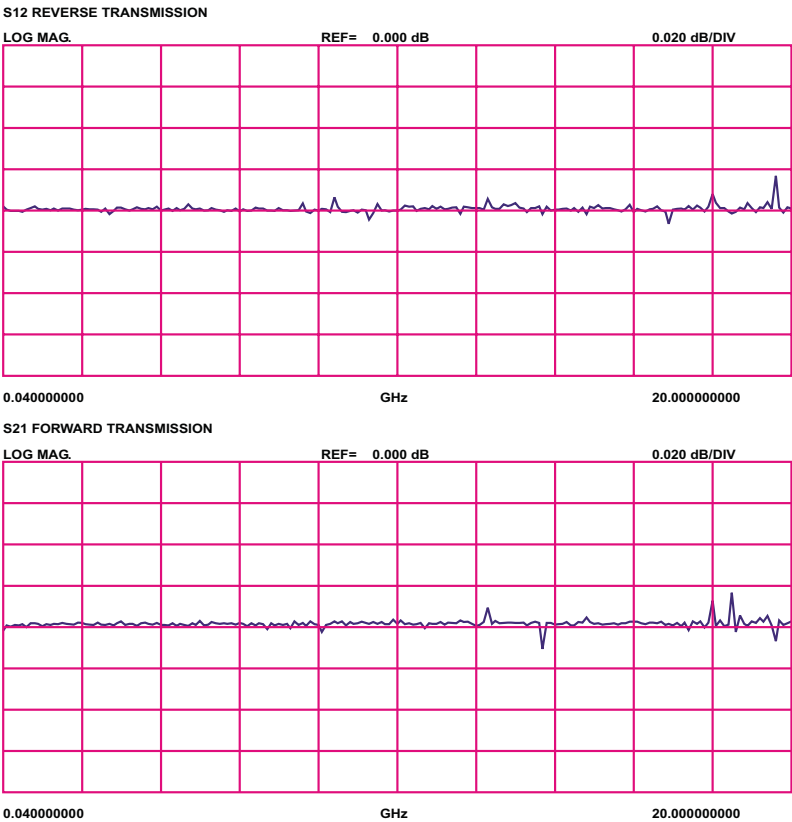

Figure 11-2. High Level Noise Test Waveform
Options Menu	Non-Ratioed Parameters, see Figure 11-2
- Step 10. Verify that the peak-to-peak High Level Noise falls within the area between the two limit lines (Figure 11-2, following page).